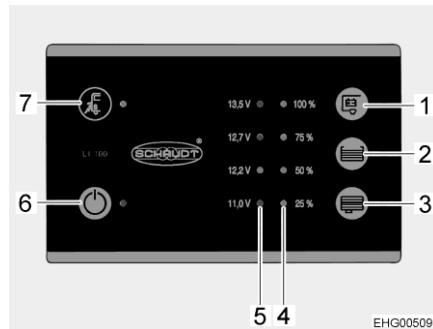

Fig. 42 Panel (LT 100)
The yellow LED at the mains connection symbol "⚡" (Fig. 42,7) is lit when the vehicle is connected to an external mains supply. In this case, the LED will also be lit when the panel is switched off.
The 12 V main switch (Fig. 42,6) switches the panel and the 12 V power supply of the living area on and off.
- Press switch "⏻" (Fig. 42,6): The 12 V living area power supply is switched on. The LED lights up green.
- Press switch "⏻" (Fig. 42,6) again: The 12 V living area power supply is switched off. The LED goes out.
The LED array (Fig. 42,5) displays the battery voltage of the living area battery as follows:
- Press the button " " (Fig. 42,1): The battery voltage of the living area battery is displayed.
The LED array (Fig. 42,4) displays the fill level of the fresh water tank or of the waste water tank.
Display fill level: Press the button "☰" (Fig. 42,2): The fill level of the fresh water tank is displayed by lit LEDs.
Press the button "☷" (Fig. 42,3): The fill level of the waste water tank is displayed by lit LEDs.